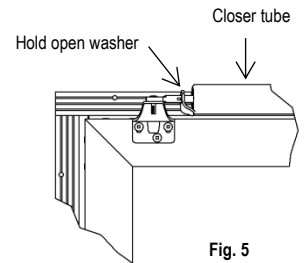

Fig. 5
- Pull on closer tube and position hold open washer on closer tube rod in front of lugs on closer tube rod (Fig. 5). This allows tension to be on closer tube after installation is complete.